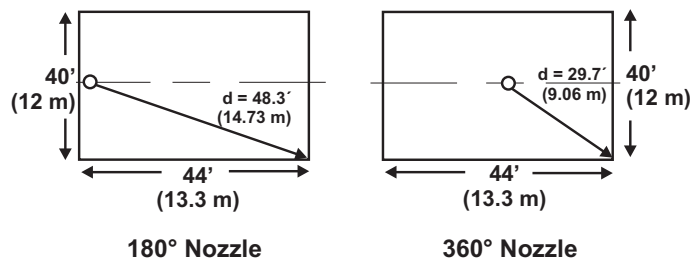

Figure 4-3. Nozzle Placement and Coverage
180° nozzles have a maximum coverage area defined as any rectangle that can be inscribed in a semicircle of distance 48.3 ft. (14.73 m, diagonal of a rectangle 20' x 44'). Refer to Figure 4-3 for further information.
- **360° Nozzles**-360° nozzles must be located as close to the center of the enclosure as possible. 360° nozzles have a maximum coverage area defined as any rectangle that can be inscribed in a circle of radius 29.7 ft. (9.06 m, diagonal of a rectangle 20' x 22'). Refer to Figure 4-3 for further information.